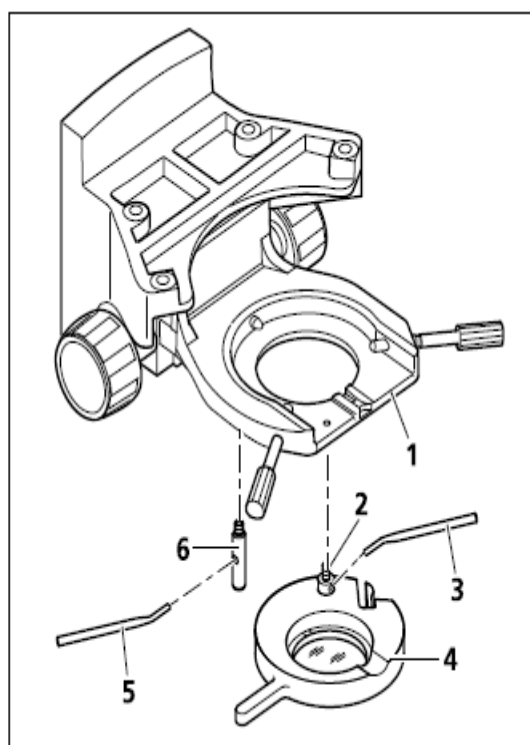

图. 3-26 安装起偏器
- I Hold the polarizer or filter holder (Fig. 3-26/4) parallel to the underside of the condenser carrier (Fig. 3-26/1) and screw the holding pin (Fig. 3-26/2) of polarizer (Fig. 3-26/4) with the angled adjusting lever (Fig. 3-26/3) into the front left threaded hole below the condenser carrier as far as it will go.
- I Screw the locking pin (Fig. 3-26/6) with adjusting lever (Fig. 3-26/5) as far as it will go into the rear threaded hole of the condenser carrier.